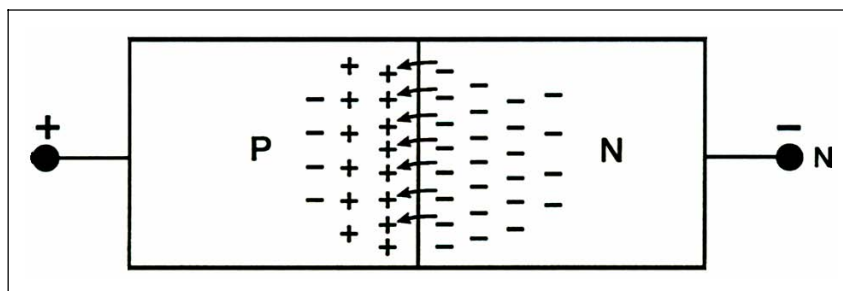
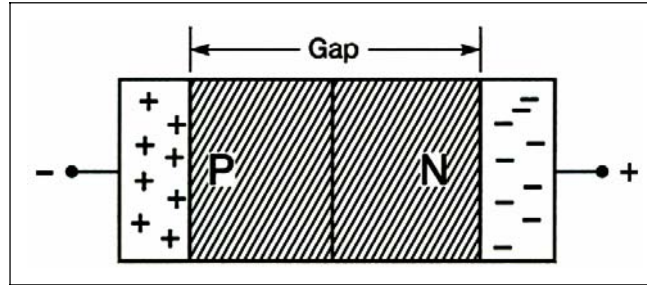

Figure 3-13. Forward-biased PN Junction
Figure 3-14. Reverse-biased PN Junction
3-28. The size of the depletion region in a varactor diode is directly related to the bias. Forward biasing makes the region smaller by repelling the current carriers toward the PN junction. If the applied voltage is large enough (about .5 volts for silicon material), the negative particles will cross the junction and join with the positive particles (see Figure 3-13). This forward biasing causes the depletion region to decrease, producing a low resistance at the PN junction and a large current flow across it. This is the condition for a forward-biased diode. On the other hand, if reverse-bias voltage is applied to the PN junction, the size of its depletion region increases as the charged particles on both sides move away from the junction. This condition (see Figure 3-14) produces a high resistance between the terminals and allows little current flow (only in the microampere range). This is the operating condition for the varactor diode, which is nothing more than a special PN junction.
3-29. As Figure 3-14 shows, the insulation gap formed by reverse biasing the varactor is comparable to the layer of dielectric material between the plates of a common capacitor. The formula (shown below) used to calculate capacitance could also be applied to both the varactor and the capacitor. In this case, the size of the insulation gap of the varactor, or depletion region, is substituted for the distance between the plates of the capacitor. By varying the reverse-bias voltage applied to the varactor, the width of the “gap” may be varied. An increase in reverse bias increases the width of the gap (d) that reduces the capacitance (C) of the PN junction. Therefore, the capacitance of the varactor is inversely proportional to the applied reverse bias.